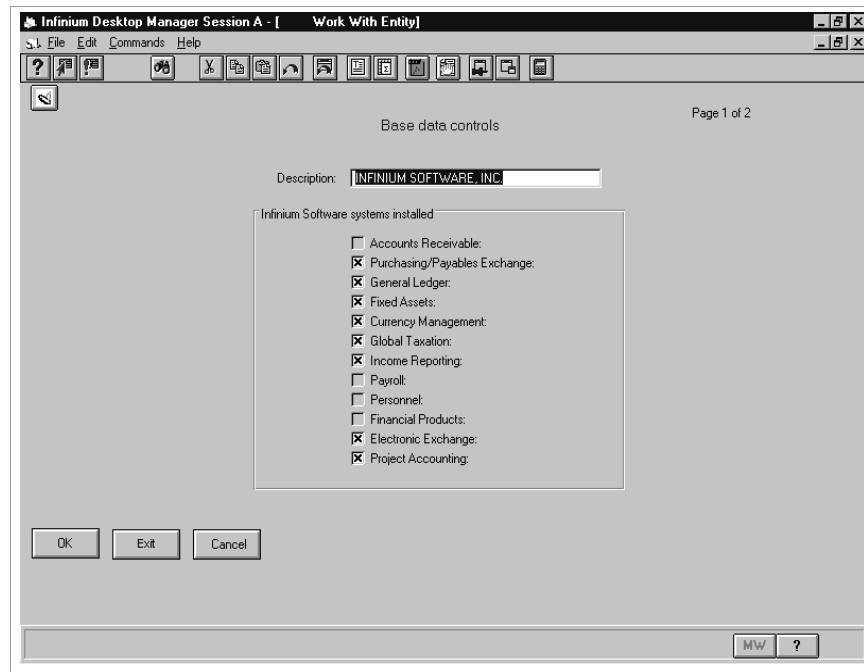

Figure 3-3: Work With Entity Base Data Controls screen 1
- Select *Base data controls*. Select **Change** or type 2 and press Enter. The system displays the screen shown in Figure 3-3.